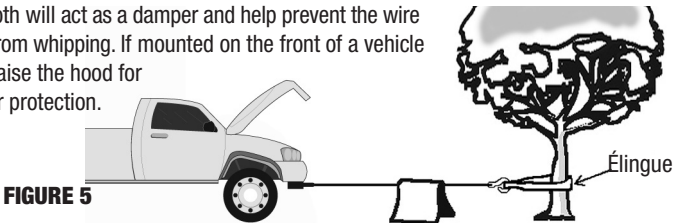

FIGURE 5
11. It is highly recommended to lay a heavy cloth (such as a blanket or tarp) over the wire rope when pulling heavy loads (FIGURE 5). If a wire rope failure should occur, the cloth will act as a damper and help prevent the wire rope from whipping. If mounted on the front of a vehicle then raise the hood for further protection.